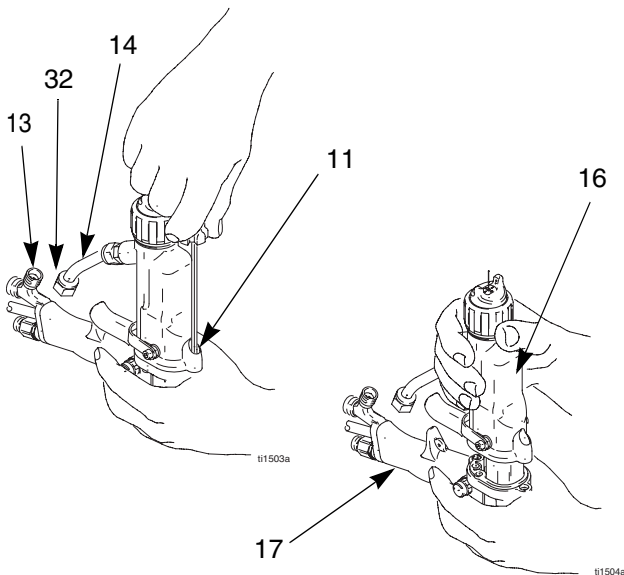

Fig. 15. Barrel Removal
4. Hold the gun handle (17) with one hand and pull the barrel (16) straight off the handle. See FIG. 15..